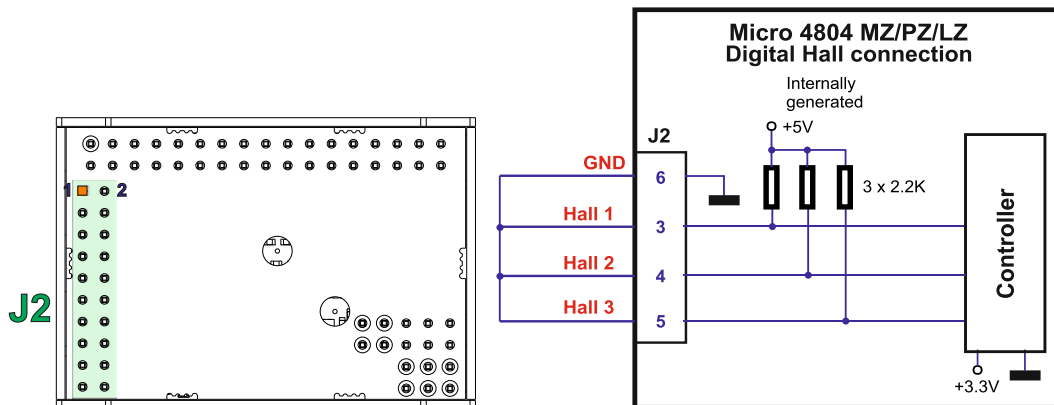
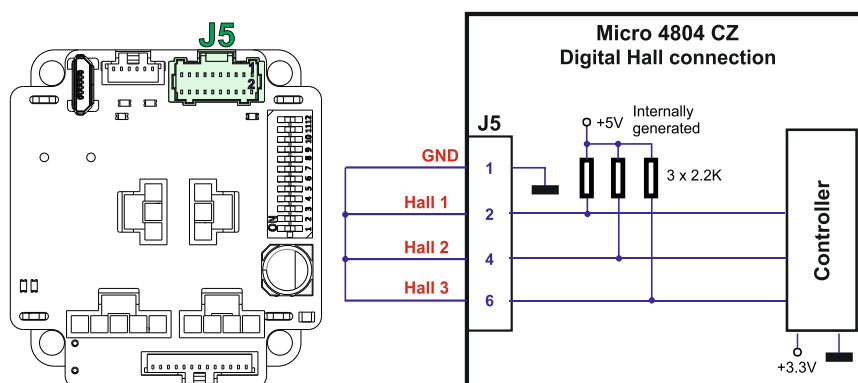

Figure 3-70 Temporary connection during power-on to invalidate the Setup table for Micro 4804 MZ/PZ/LZ
Figure 3-71 Temporary connection during power-on to invalidate the Setup table for Micro 4804 CZ
- Hardware2 – by temporary connecting all digital Hall inputs to GND, during the power-on for about 1 second, until the green LED is turned on, as shown in Figure 3-70 and Figure 3-71. This option is particularly useful when it is not possible to communicate with the drive.